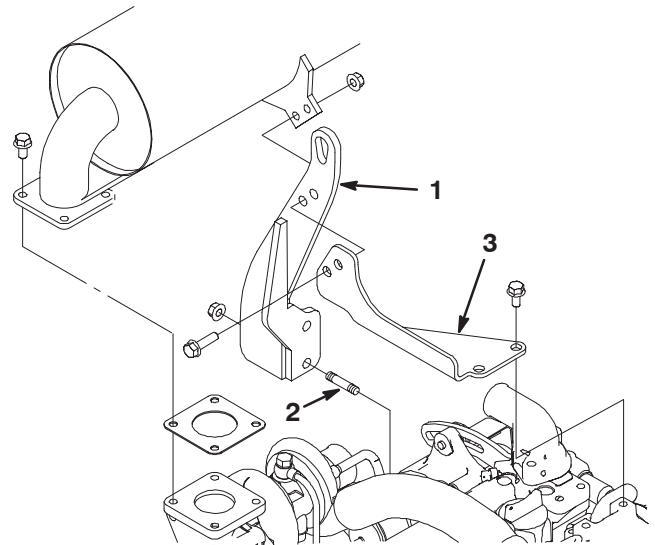

Figure 2
5. Loosely install the new exhaust mount assembly onto the threaded studs with (2) new nuts (Fig. 2). Do not tighten the nuts at this time.
7. Loosely install the new top exhaust mount to the engine with (2) screws (Fig. 2). Do not tighten the screws at this time. The top exhaust mount is positioned to the front of the exhaust mount assembly.